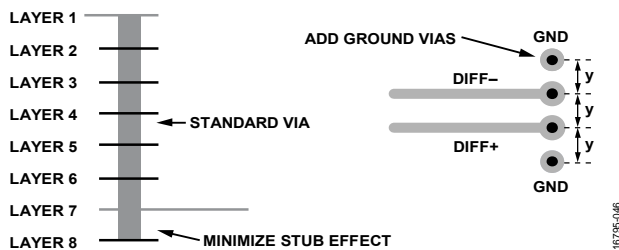

Figure 96. Minimizing Stub Effect and Adding Ground Vias for Differential Stripline Traces
- If using standard vias, use the maximum via length to minimize the stub size. For example, on an 8-layer board, use Layer 7 for the stripline pair (see Figure 96).
- For each via pair, place a pair of ground vias adjacent to them to minimize the impedance discontinuity (see Figure 96).